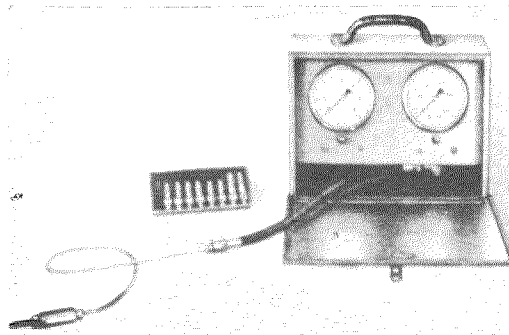

Fig. 42 — 2/1
- a) Remove the bleeder screw from one brake wheel cylinder, screw on the pressure tester connector and connect up with the tester (Fig. 42 — 2/1).